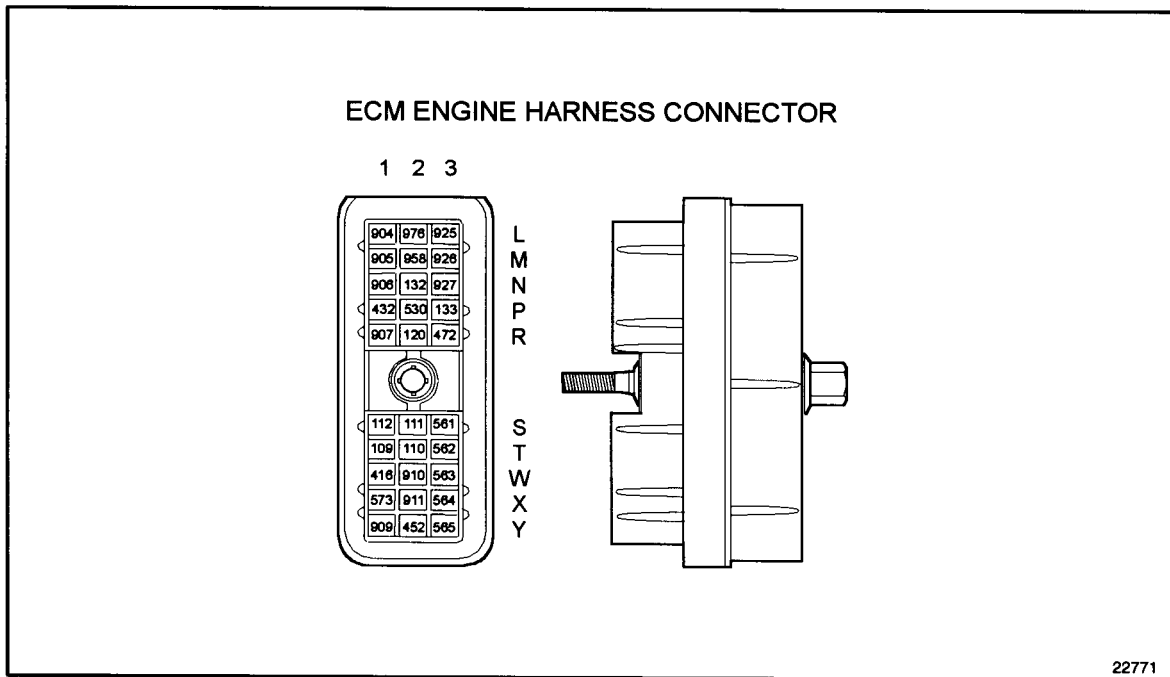

Figure 15-8 ECM Engine Harness Connector
1. Check terminals at the ECM engine harness connector (both ECM and harness side) for damage: bent, corroded and unseated pins or sockets. Check terminals RR2 and Y2 of the ECM connector. See Figure 15-8.